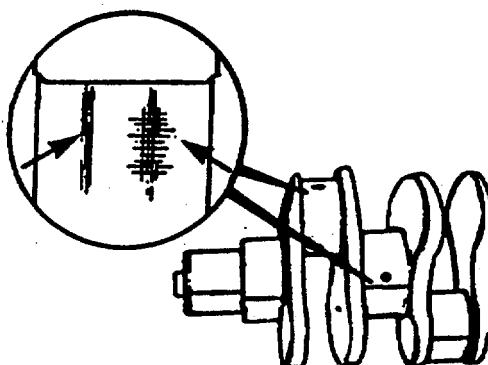

FIGURE 4-64. Inspecting Rod and Main Journals
- d. Inspect the rod and main journals for deep scoring, overheating, etc. As shown in FIGURE 4-64.